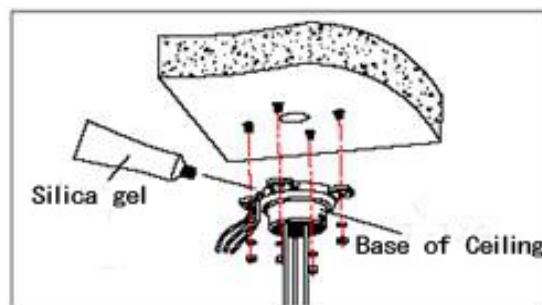

Fig 13
b. As shown in Fig 13, at first unscrew the M4 screw at the side of the base of ceiling and split the base of ceiling and boom. Then make the three groups of cables of power, video/control and alarming into the side recessing seal groove of the ceiling connector bottom and through the core hole of the base of ceiling mounted. Fix the base of hang ceiling on the ceiling board.